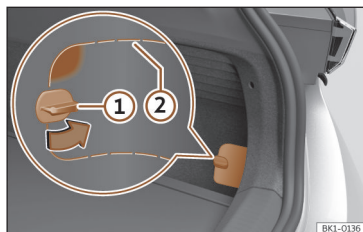

Fig. 61 On the lower right-hand side of the luggage compartment trim: cover with cutting lines.
- Turn the cover lock  through 90° >>> Fig. 61.
- Press the surface over the lock inwards >>> Fig. 61 (marked zone).
- Insert your hand through the opening and pull the cover off. If necessary, apply a suitable object along the cutting lines  >>> Fig. 61.